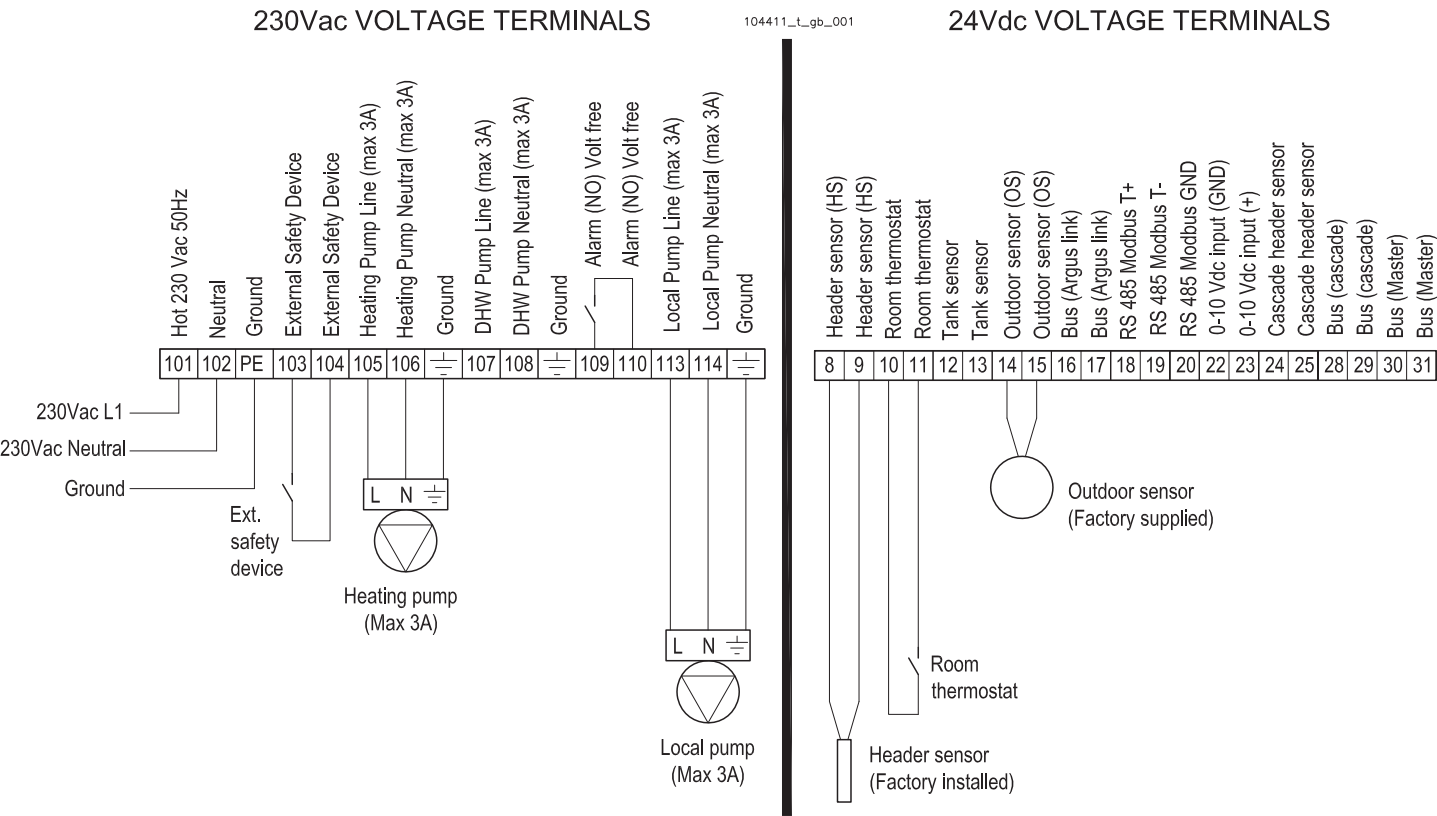

Figure 13-4 - Boiler electrical connections (Example of system shown in figure 10-1)
To connect the room thermostat cable, proceed as follows (refer to figures 13-4 and 13-5):
- 6.- connect the 2 ends of the cable to terminals "10" and "11" (see figures 13-4 and 13-5).
- 2.- connect the bipolar cable to terminals "14" and "15" shown in figures 13-4 and 13-5;
For the electrical connection, proceed as follows (refer to figures 13-4 and 13-5):
- 6.- electrically connect the storage tank pump to terminals 107 and 108 of the boiler (see figures 13-4 and 13-5).